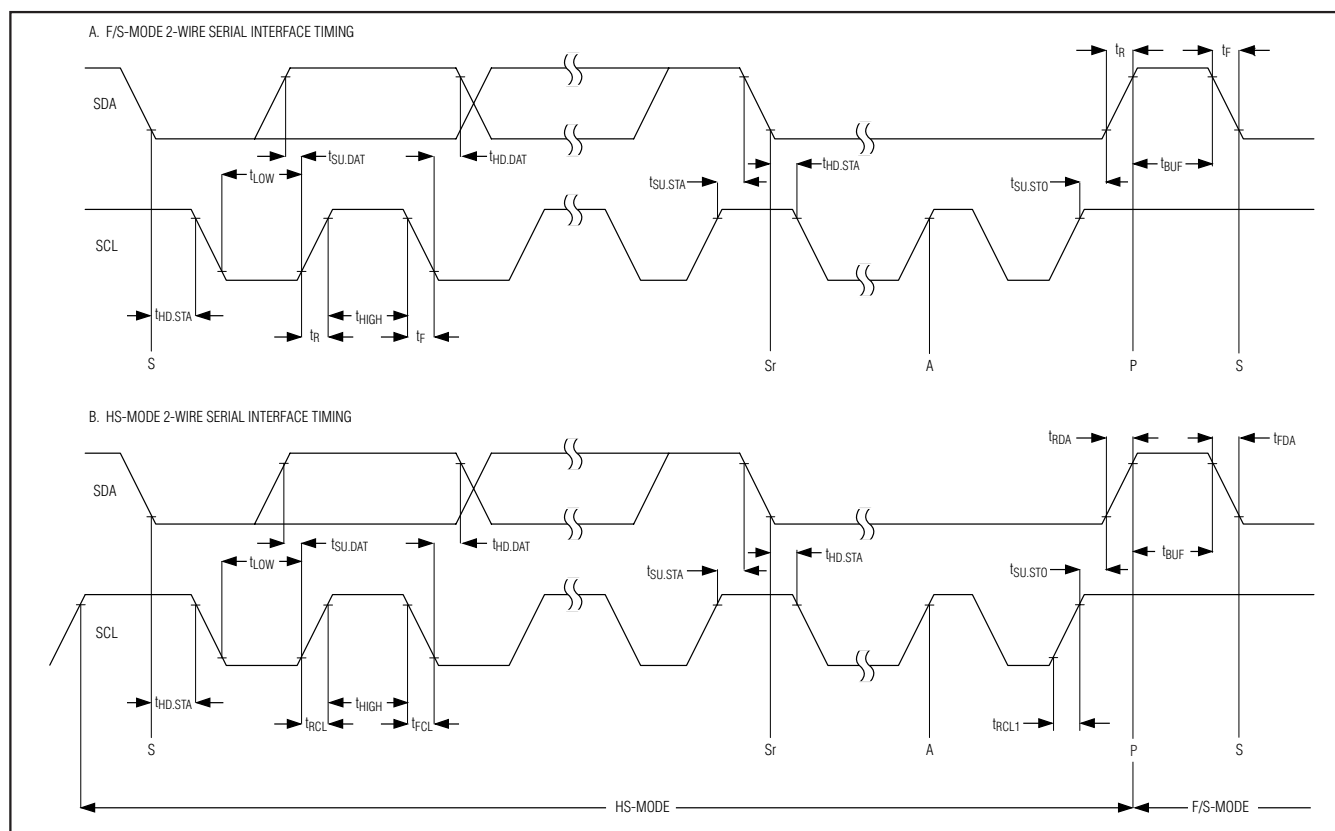

Figure 1. 2-Wire Serial Interface Timing
### TIMING CHARACTERISTICS (Figure 1)
### TIMING CHARACTERISTICS (Figure 1) (continued)
**Note 10:** A master device must provide a data hold time for SDA (referred to  $V_{IL}$  of SCL) in order to bridge the undefined region of SCL's falling edge (see Figure 1).
up to 22.2ksps. The MAX1136–MAX1139 must operate in high-speed mode (HS-mode) to achieve conversion rates up to 94.4ksps. Figure 1 shows the bus timing for the MAX1136–MAX1139's 2-wire interface.